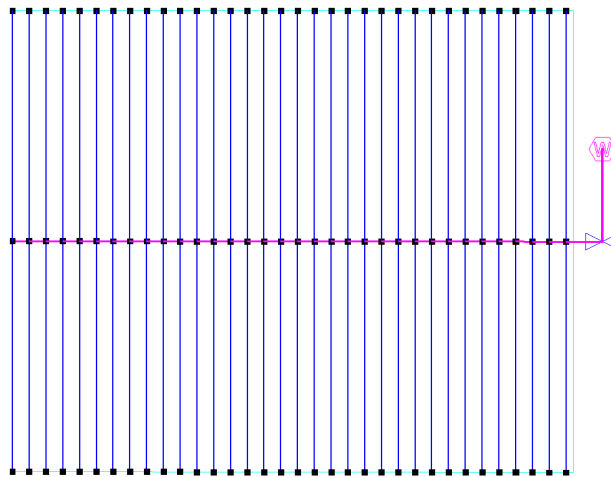

Figure 4-31
8. Now select *Mainline/Pipe*. Leave the pipe as **Computer Selected** and the “Depth” as **0**. Click [OK]. Connect the mainline pipe to the control valve with a left-click and draw upwards for approximately **33ft (10m)**. Left-click to place and then *Right-click/Restart*. Select *Mainline/Water Supply* and place on the end of the mainline pipe with a left-click as in Figure 4-31. Leave the Water supply details as the defaults; simply click [OK]. Now select *View/Zoom All*.